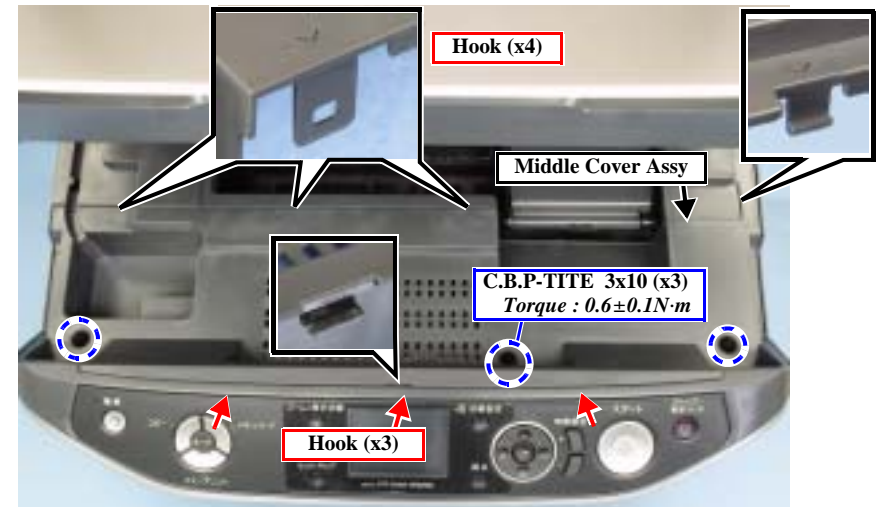

Figure 4-1. Removing the Middle Cover Assy
1. Open the Scanner Unit, and remove the screws (x3) securing the Middle Cover Assy. (Fig. 4-1)